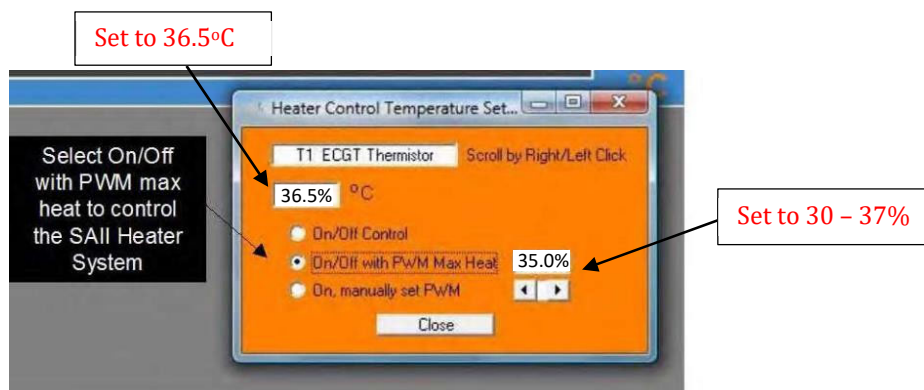

Fig. 2
3. proper software setting in the PCSAM (Fig 2).
- d. Turn on the heater and fan module (Fig.2).